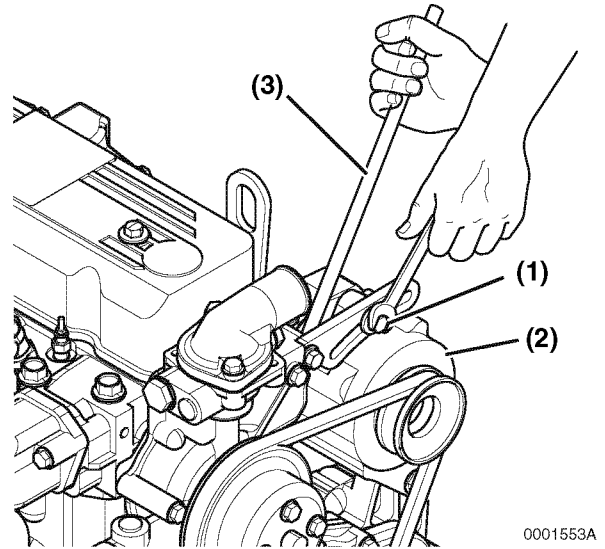

Figure 5-4
2. If necessary, adjust the V-belt tension. Loosen the set bolt (**Figure 5-4, (1)**) and move the alternator (**Figure 5-4, (2)**) with a pry bar (**Figure 5-4, (3)**) to tighten the V-belt.